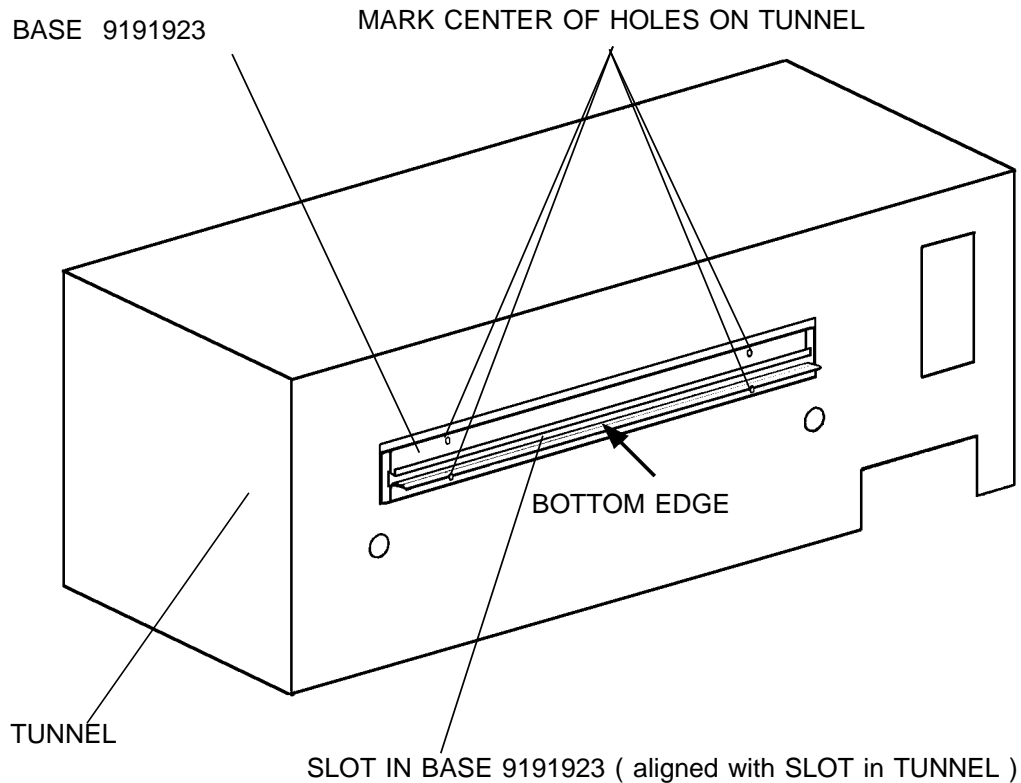

figure 2
5. Hold BASE 9191923 on REAR SIDE of TUNNEL that the SLOT in the BASE is centered on the SLOT in TUNNEL and that the BOTTOM EDGE of SLOT in the TUNNEL is aligned with the BOTTOM EDGE of the BASE 9191923. See figure 2. Mark the center of the four holes in the BASE on TUNNEL.